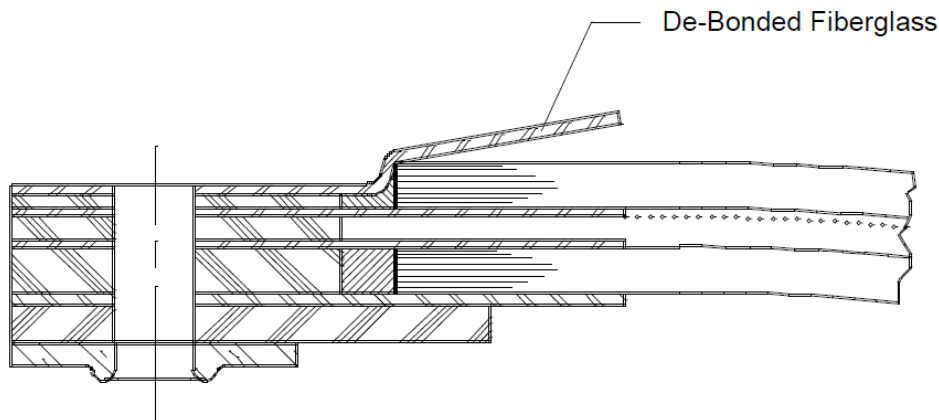

Figure 1 – Outboard Strap in Need of Repair
- (1) Carefully check to determine the extent of the de-bonded area. Only the loose areas are to be removed. (See Figure 1)
- (5) Carefully lift the cut portion of the strap with the spatula and grip the corner of the cut strap with the needle nose pliers.
- (6) Lift the strap with the needle nose pliers and then cut it at the glass edge with the razor blade. Continue to lift and apply tension on the strap with the needle nose pliers while cutting the strap free with the razor blade. Continue this process until the loose portion of the strap has been removed to the glass edge. (See Figure 1 for loose strap).